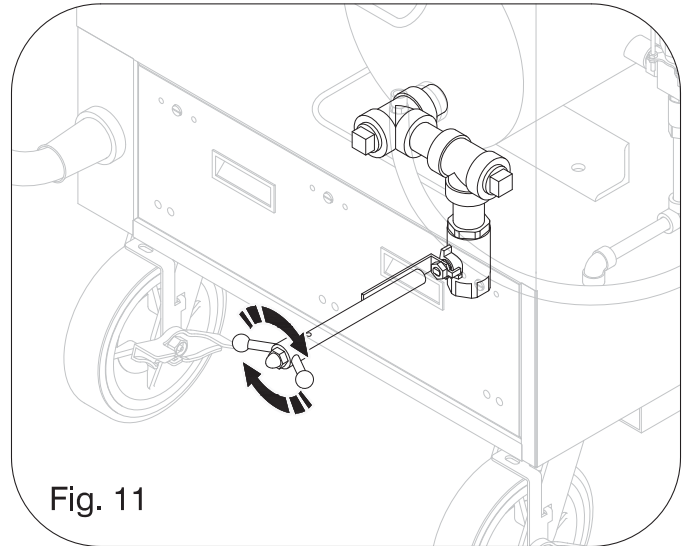

Fig. 11
- ☞ Make sure the Drain Handle is turned fully **CLOCKWISE**, to the **CLOSED** position. (See Fig. 11)